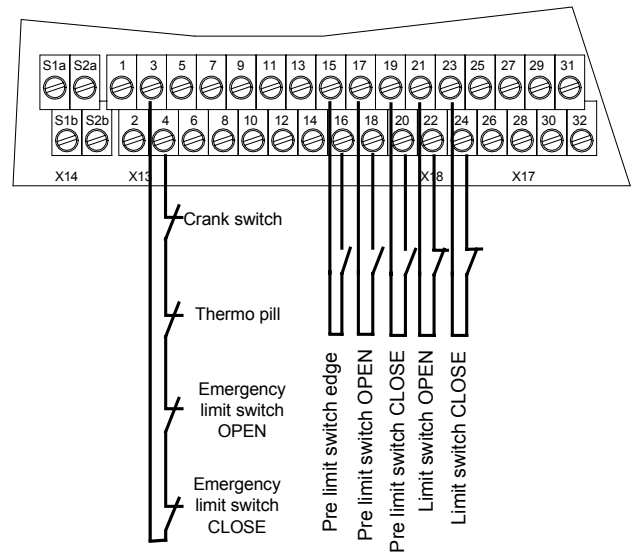

Fig. 9: Connecting cam switches
- P.205: 0 = Mechanical limit switches Version 1 (Fig. 9: Connecting cam switches)